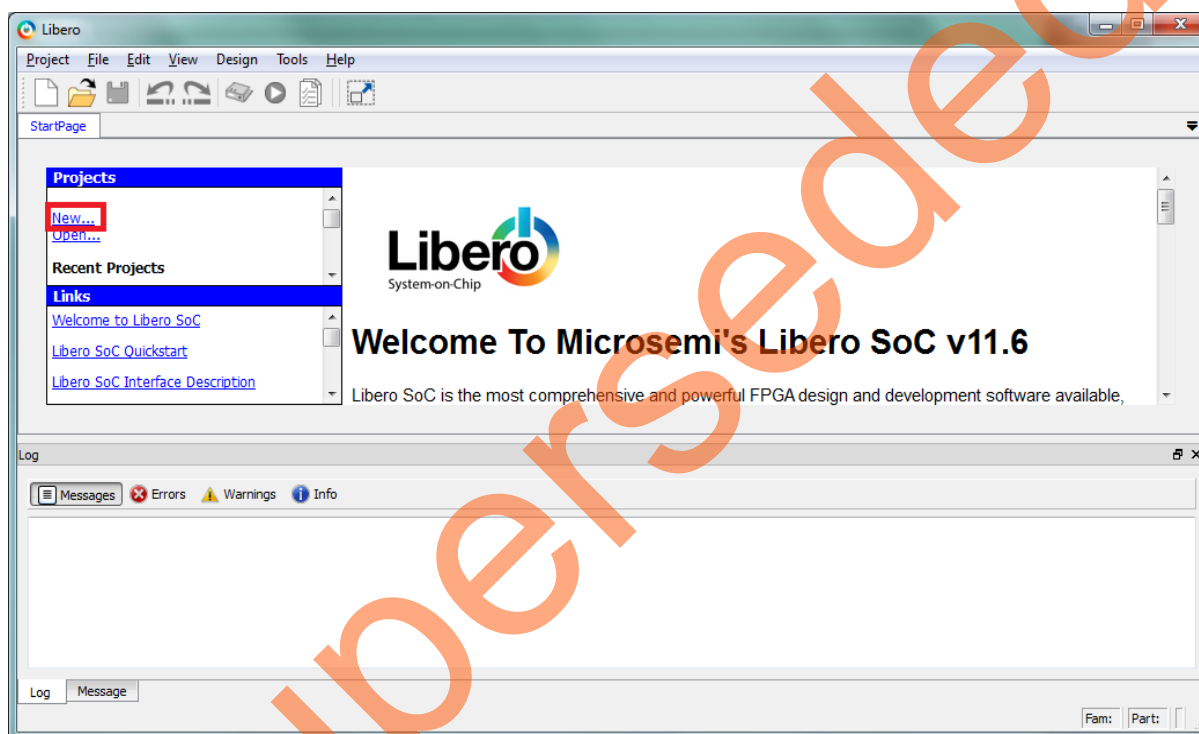

Figure 4 • Libero SoC Project Manager
- Select **New** on the **Start Page** tab as shown in Figure 4.